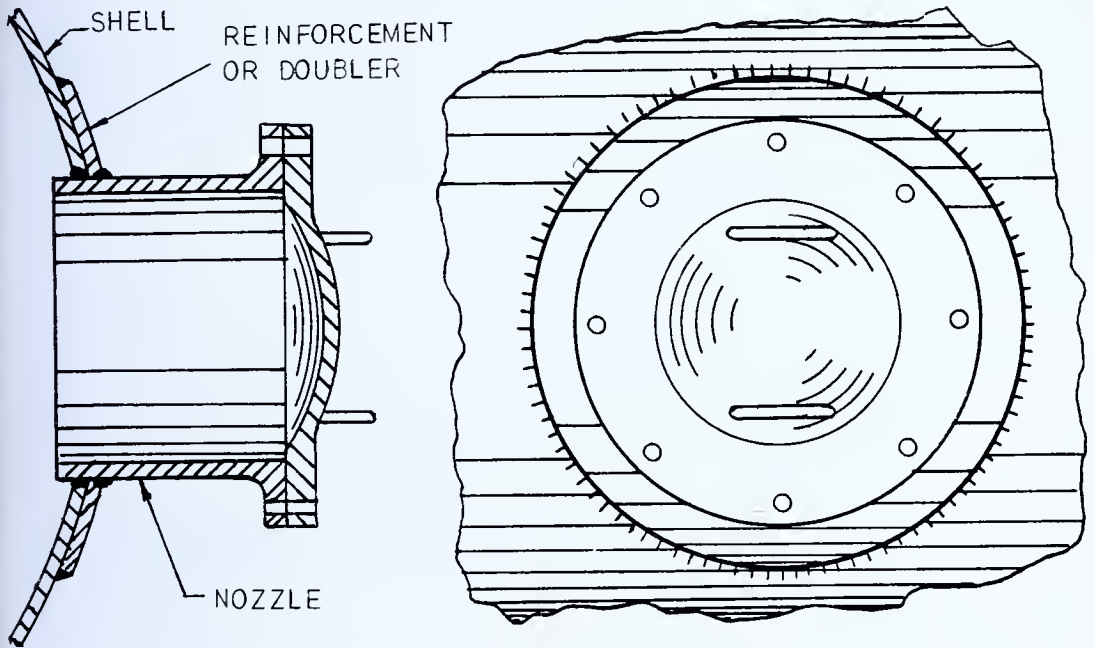
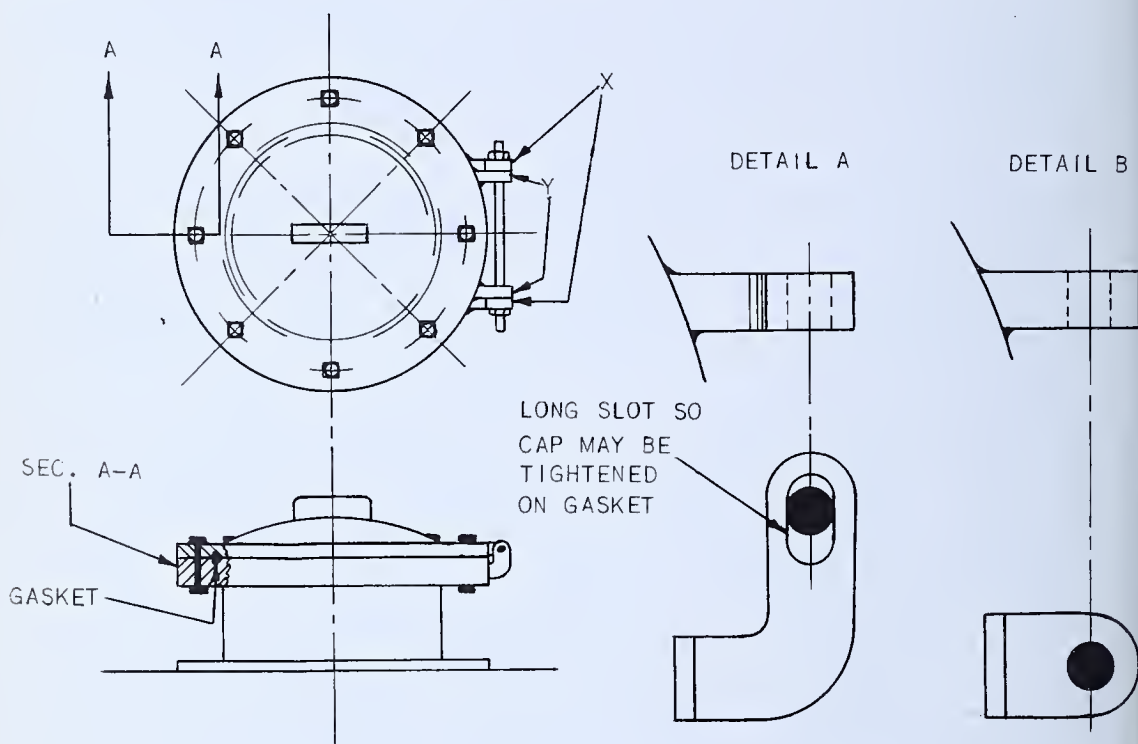

FIG. 387 — *Straight-Neck Manhole Nozzle*
FIG. 392 — *Manhole Cover Hinged to a Vertical Tank*
Pressure tanks must be repaired occasionally, and they must be cleaned and inspected periodically. To provide access to the interior of the tank, the boilermaker welds a manhole into an opening in the shell as shown in Fig 387.
A dished manhole cover is shown in Fig. 387. This type of cover is secured in place with bolts and is generally used on a horizontal tank. A hinged manhole cover is used on a vertical tank as shown in Fig. 392.
After a manhole nozzle has been welded in place on a vertical tank, the hinges shown in Fig. 392 at detail *A* and detail *B* are welded in place. The direction in which the cover is to swing is given on the blueprint. An RTJ (ring-tight-joint) gasket is placed on the nozzle flange, and the cover is tightened down in place with a few bolts as shown at section *A-A*, Fig. 392. The hinge lugs and the hinge pin are assembled as shown at *x* and *y*.
5. Assemble the hinge lugs on hinge bolt as shown in Fig. 392.